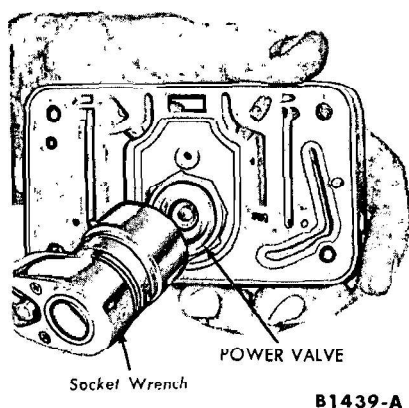

FIG. 12—Power Valve Removal or Installation—Holley 4-V
4. Using a socket wrench, remove the power valve and gasket (Fig. 12).
9. Using a socket wrench, install the power valve and gasket in the metering block (Fig. 12). **Be sure to install the specified power valve. Refer to the specifications for the correct identification number. The number is stamped on a flat on the base of the valve.**